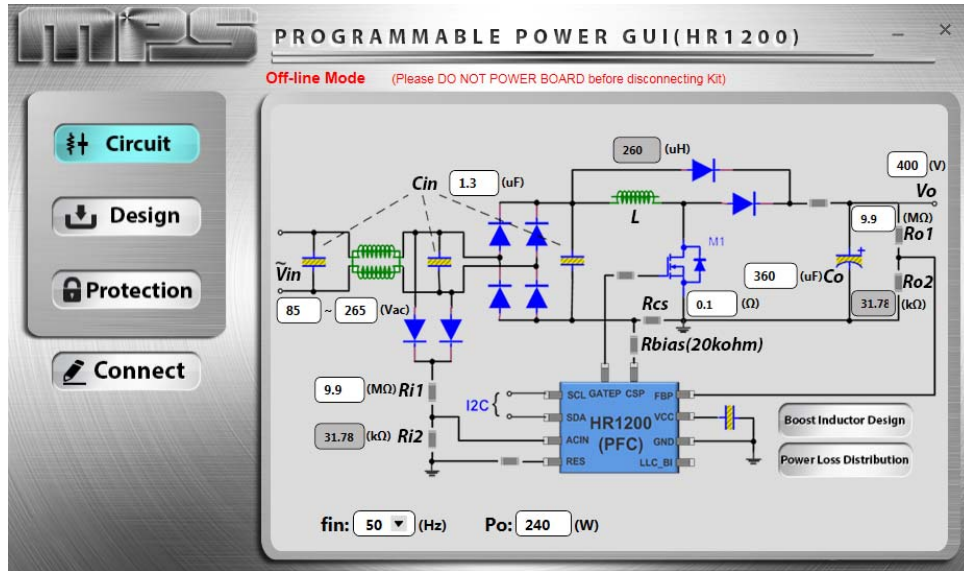

Figure 9: Main Interface in Offline Mode
B. Mode Recognition: In this case, VCC is below 8V, and the IC enters offline mode (see Figure 9). Fixed VCC, VREG, and pre-determined BURST values are sent to the EVB.
This panel configures EVB inputs, outputs, and several key design parameters (see Figure 9).